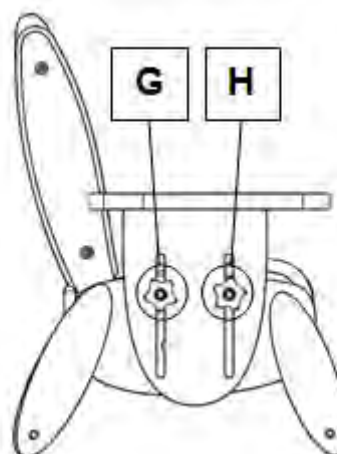

Figure 4
- Loosen handwheels (*Ref. G & H of Figure 4*).
- Tighten handwheels (*Ref. G & H of Figure 4*) when the armrest is set.